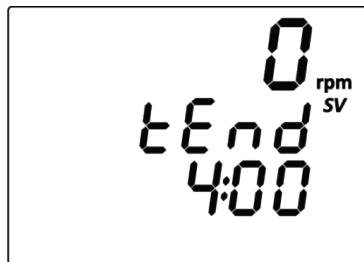

Figure 4 - Stopping by timer
- 8.2.4. Upon expiration of the timer's set time, stirring will stop and audible signal will be given. The display will show message, that set time of stirring has expired (Figure 4).